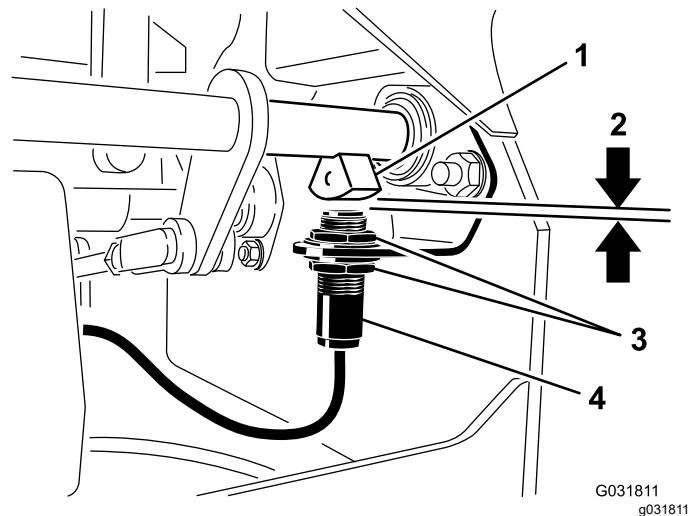

Figure 79
4. Move the switch up or down on the bracket until the distance between the brake-shaft sensor and the switch plunger is 4 mm (5/32 inch) as shown in Figure 79.